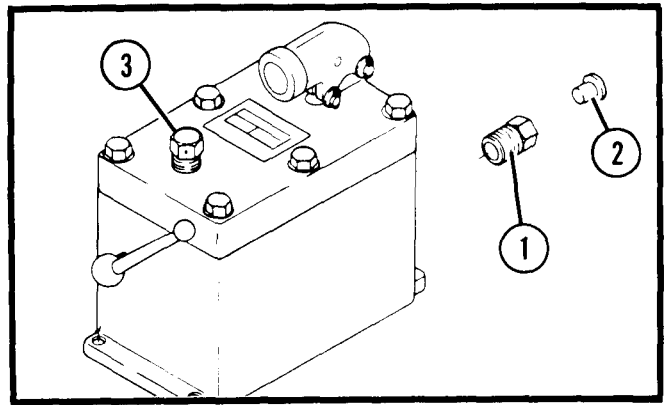

Figure 4
- Removal of plastic plug, without removing the connector from the pump, could cause some of the plug to be forced into the pump (See Figure 4).
7. Remove vent-filler plug (See Figure 4) and fill the pump with 1 qt. (.946L) of type "A" or "F" transmission fluid. DO NOT substitute with any other type of fluid.